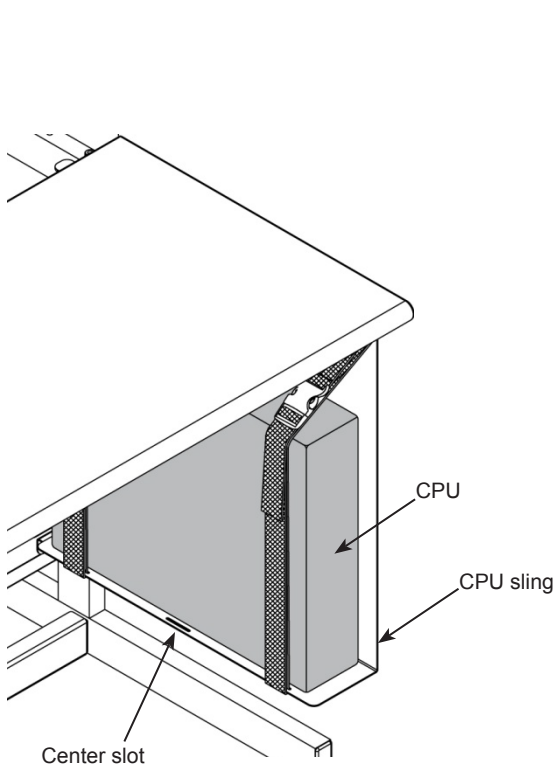
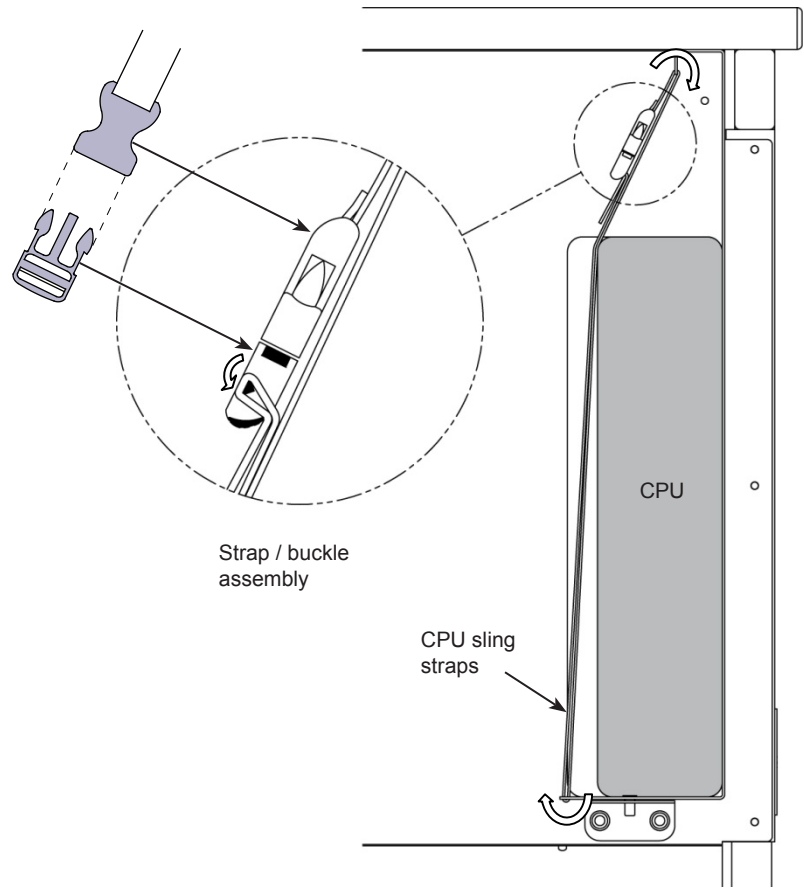

Figure 5.1
Figure 5.2
2. Make sure the CPU will be supported by both straps. Tighten the straps around the CPU while keeping the buckles positioned as high as possible to avoid interference. **Figure 5.1.**
Note: The center slot can be used for better support of smaller profile CPU's. If the center slot is necessary, take the rear strap out of the rear slot and thread into the center slot shown in **Figure 5.1.** Thread the strap as shown in **Figure 5.2.**